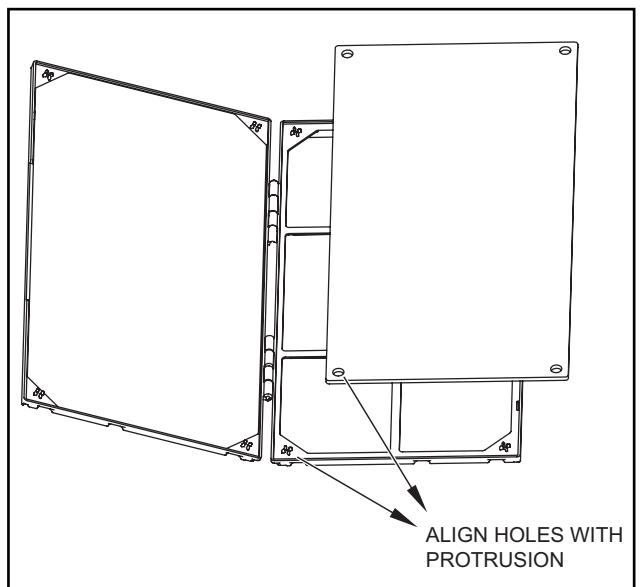

Figure C.7.5
**STEP 4.** (Optional) Place the new carbon filter on the top of the back filter frame. The carbon filter has been cut to the correct dimension and should fit within the frame as shown in Figure C.7.5.